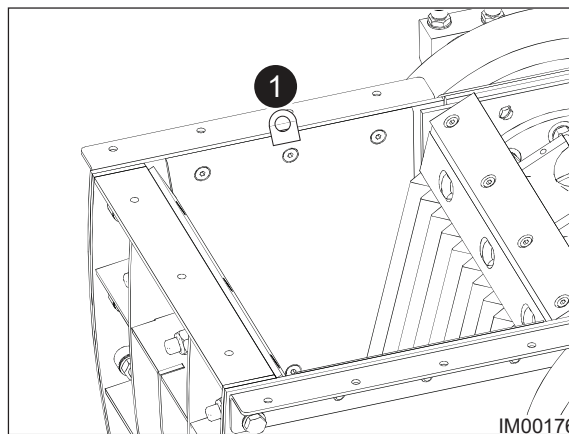

Fig: 11.35 - Cheek Plate
3. Weld a Lifting Eye to the centre of the flange on the Cheek Plate (Item 1, Fig: 11.35).